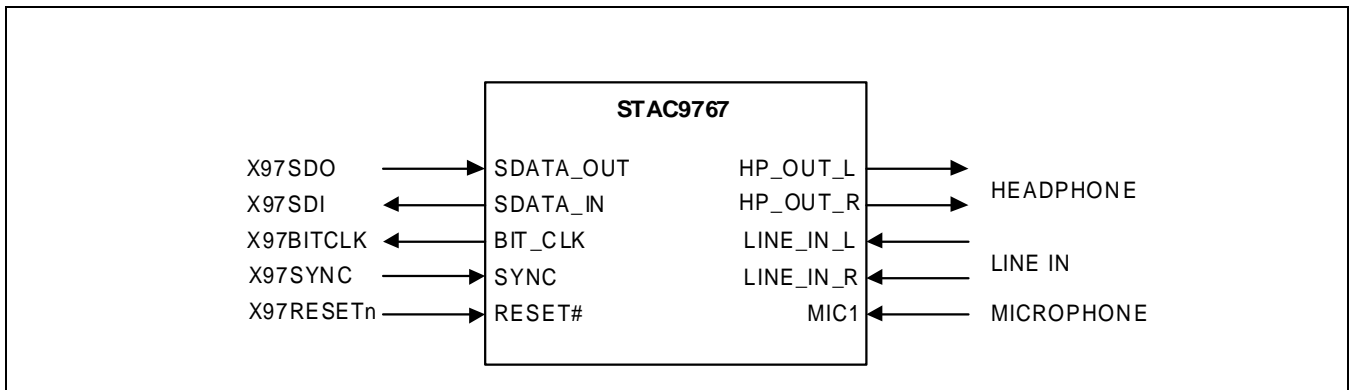

Figure 4-14. STAC9767 Connection with S3C2440A
- UG-32F04 (320x240 mono STN LCD) from SAMSUNG DISPLAY DEVICES CO., LTD. (refer to Figure 4-14)